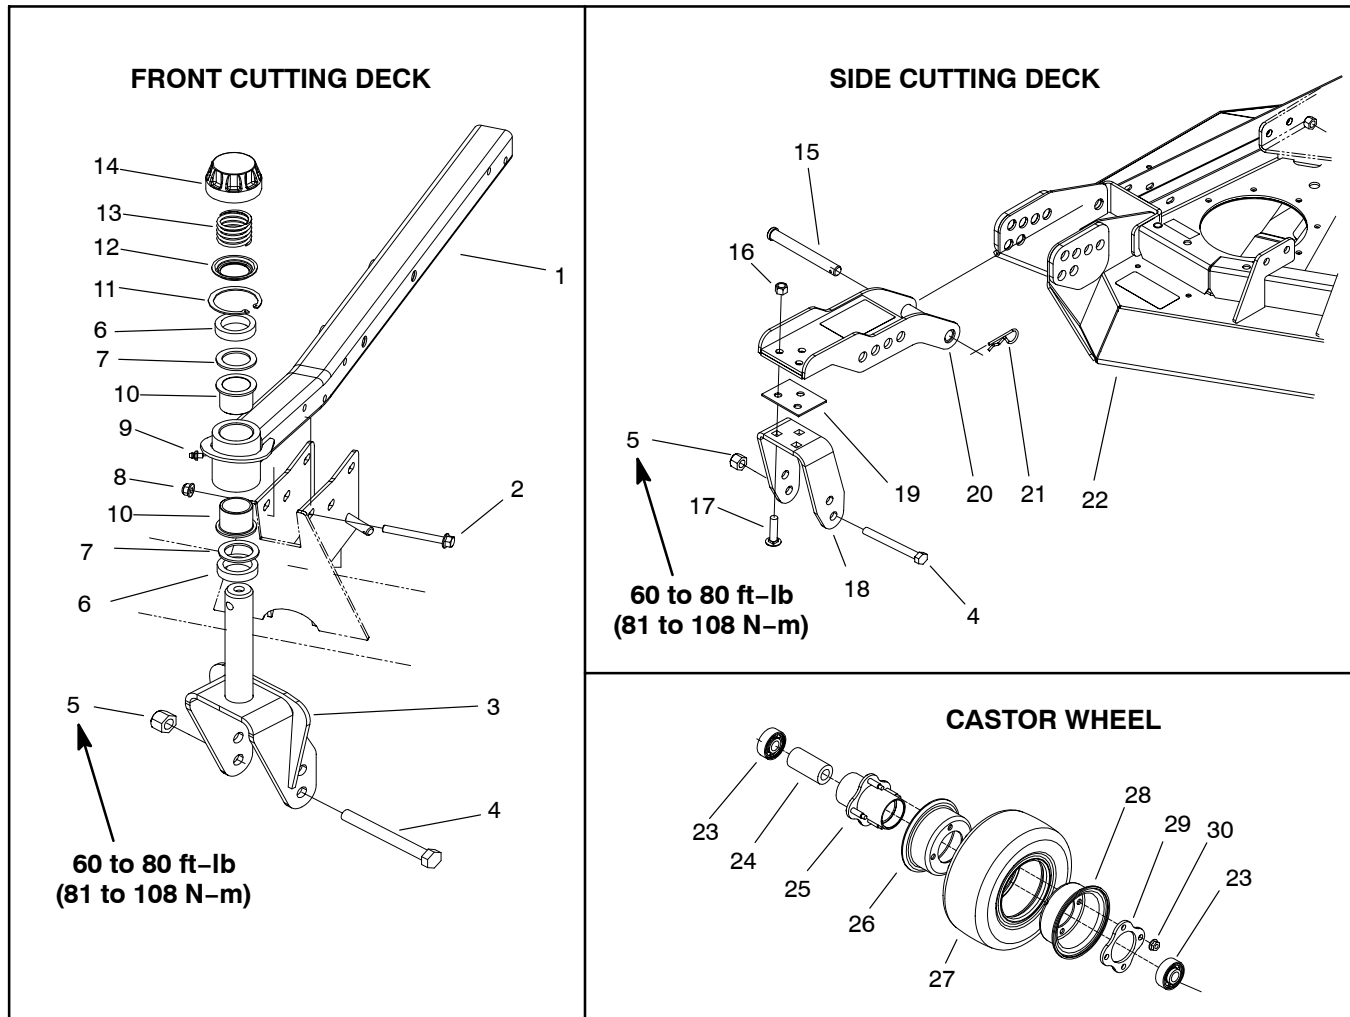

Figure 12
1. Disassemble castor wheel using Figure 12 as a guide.
1. Assemble castor wheel using Figure 12 as a guide.
2. Torque castor wheel lock nut (item 5) from **60 to 80 ft-lb (81 to 108 N-m)**.